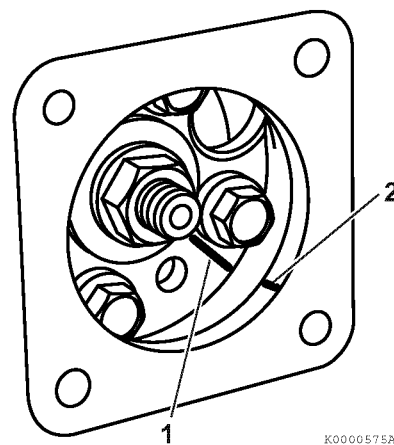

Figure 7-15
- On TNV82 - 88 model engines, the idler gear is not visible. Make a reference mark on the fuel injection pump drive gear (1, **Figure 7-15**) and a matching mark on the bore of the gear case opening (2, **Figure 7-15**).